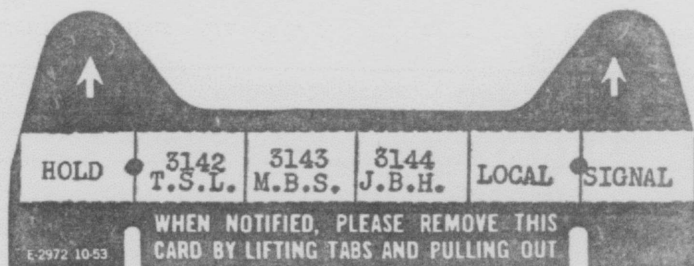

Fig. 9
- (1) Remove designation card holder and existing designation card from set.
- (2) Peel off adhesive strip from temporary designation card.
(3) Place the designation card just removed on the adhesive surface of the temporary designation card as shown in Fig. 9. (See Note.)
(4) The new designation card **and** the temporary designation card are inserted in the designation card holder with the temporary card **above** the new designation card.